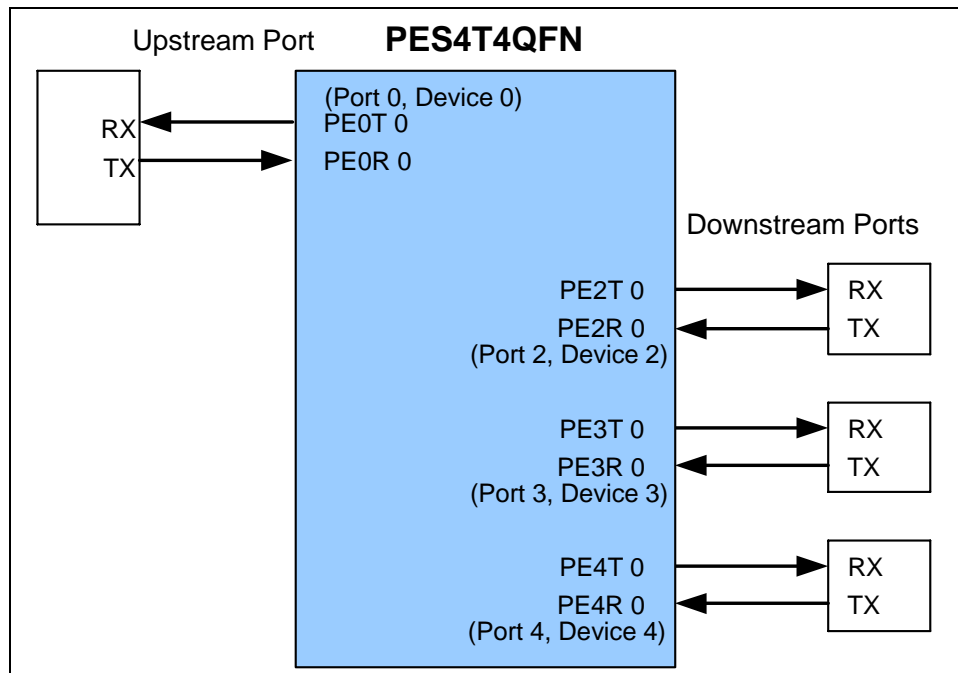

Figure 1 Port Numbering and Device Numbering
- AC coupling capacitors are associated with the Tx differential pairs and should be located symmetrically on the top or bottom layer between the PES4T4QFN and the PCIe connectors, as shown to Figure 1. Values between 75nF and 200nF are appropriate, per the PCI Express specification. For example, 100nF in 0402 size capacitors are used on the PES4T4QFN evaluation board.